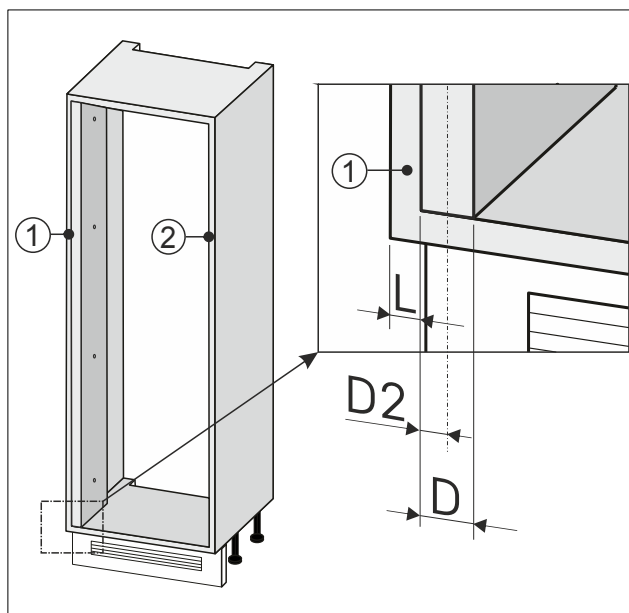

Fig. 86
- ▶ Note half the width Fig. 86 (D2) of the filler panel.